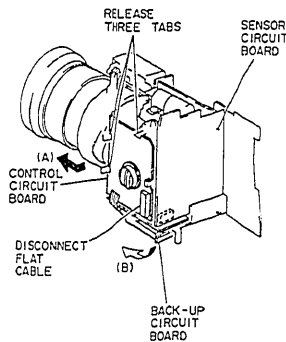

Fig. 2-15
- 1) Disconnect flat cable (CN903) on the control circuit board. (See Fig. 2-15)
- 2) Release three (3) tabs and remove the control circuit board in the direction of arrow (A).
- 3) Remove the back-up circuit board in the direction of arrow (B) separating from the sensor circuit board. (The back-up and sensor circuit boards are connected via board-in type connector.)